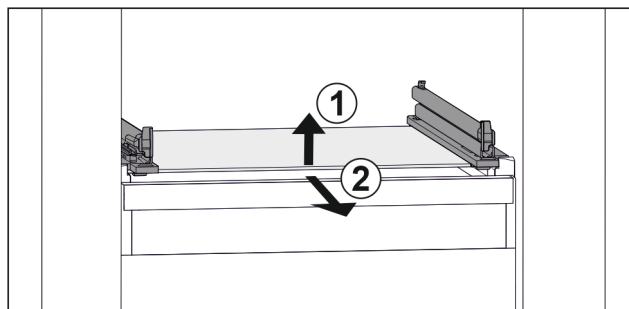

Fig. 26 Example illustration of glass shelf
- Lift glass shelf at the front. Fig. 26 (1)
- Take out glass shelf to the front. Fig. 26 (2)